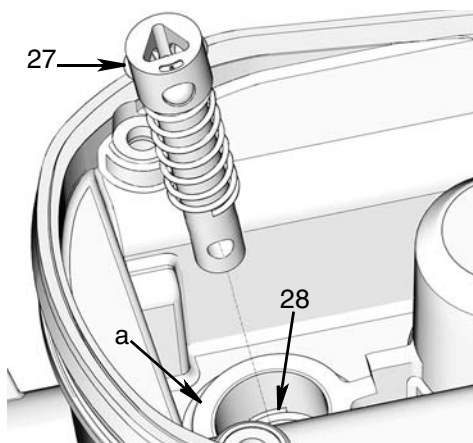

FIG. 27
7. Remove trip rod assembly (27) from housing (FIG. 27).
8. Use a pick to remove seal (28) from the bottom of the trip rod hole (a) (FIG. 27).
13. Install trip rod assembly (27) into the trip rod hole (a) (FIG. 27).
8. Install trip rod assembly (27) into the trip rod hole (a) (FIG. 27).